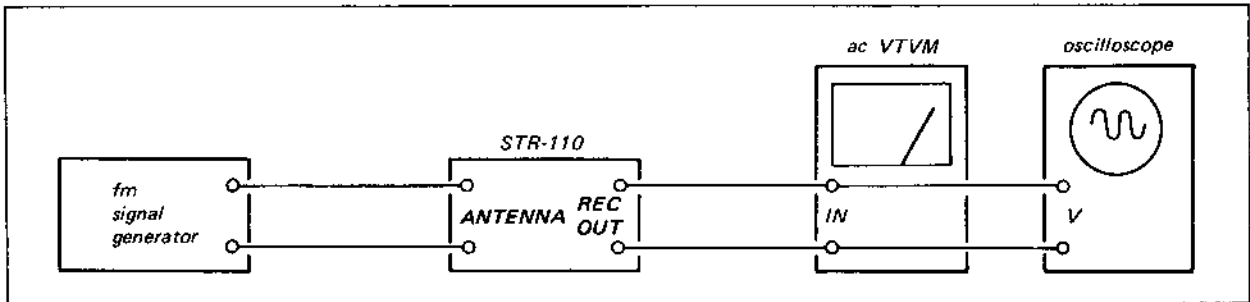

Fig. 3-8. Fm frequency coverage and tracking alignment test setup
1. Connect the equipment as shown in Fig. 3-8.